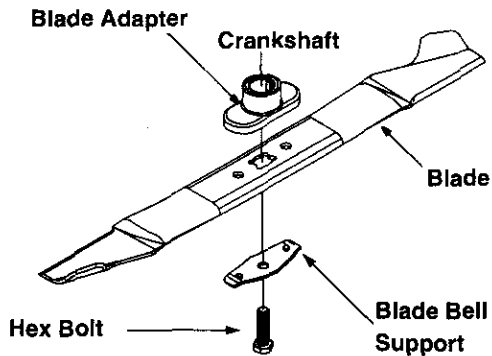

Figure 14
- Remove the bolt, and the blade bell support which holds the blade and adapter to the engine crankshaft. See Figure 14.
- Install the blade adapter on the crankshaft with the "star" away from the engine. See Figure 14.
- Insert the hex bolt through the blade assembly. Figure 14 shows the correct order of assembly.